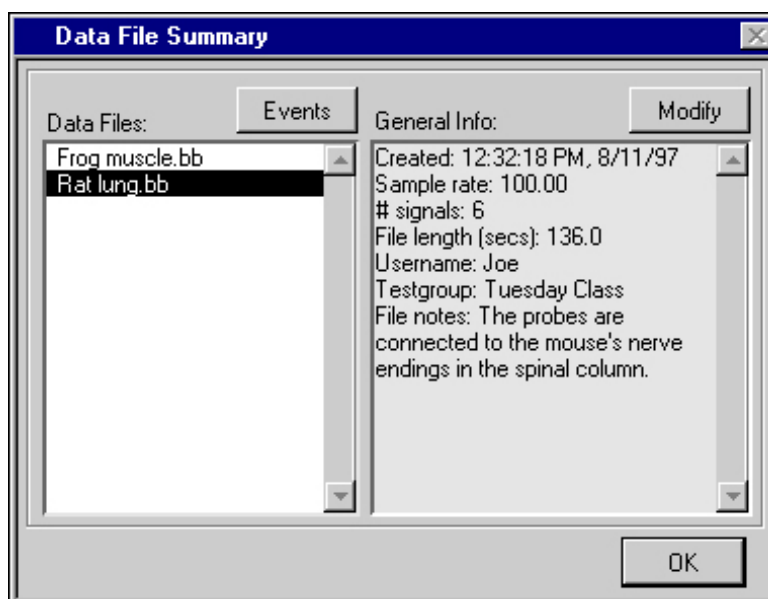

Figure 2-14. Data File Summary Dialog Box
- **Show Data Files**—Clicking on this button displays the Data File Summary dialog box, shown in Figure 2-14. The following section describes the Data File Summary dialog box in detail.
This section describes the controls in the Data File Summary dialog box shown in Figure 2-14.